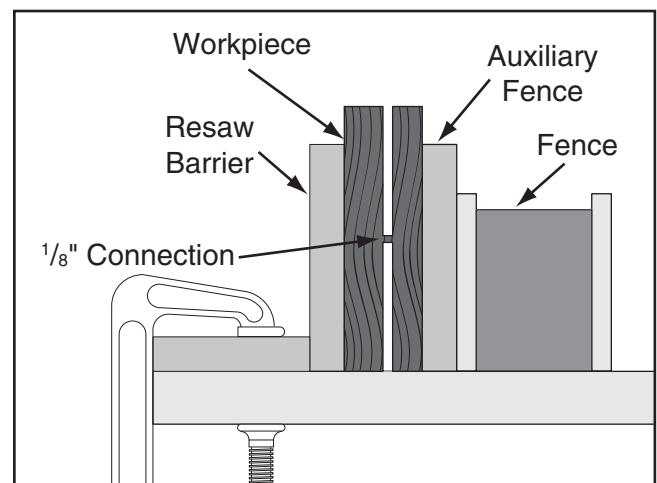

Figure 71. Ideal completed resaw cut.
7. Raise blade approximately 1 inch, or close to half the height of workpiece (see **Figure 71**), whichever is less.
10. Repeat **Steps 7–9** until blade is close to half the height of board to be resawn. The ideal completed resaw cut will leave a 1/8" connection when resawing is complete as shown in **Figure 71** on **Page 44**. Leaving a 1/8" connection will reduce risk of kickback.